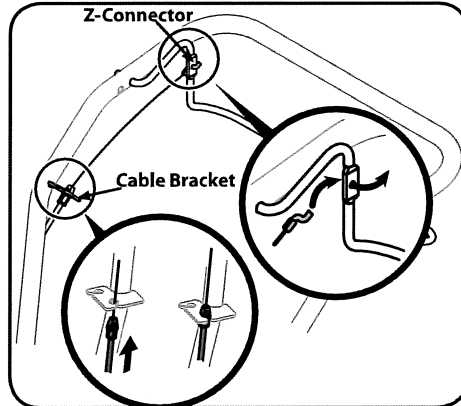

Figure 3-7
2. Pull the forward clutch cable with the black end fitting up through the bottom hole of the cable bracket and push the cable connector up through the hole until the groove in the connector snaps into place. See Figure 3-7.
3. Place the Z-connector into the hole in the forward clutch bail from the outside of the bail to the inside. See Figure 3-7.